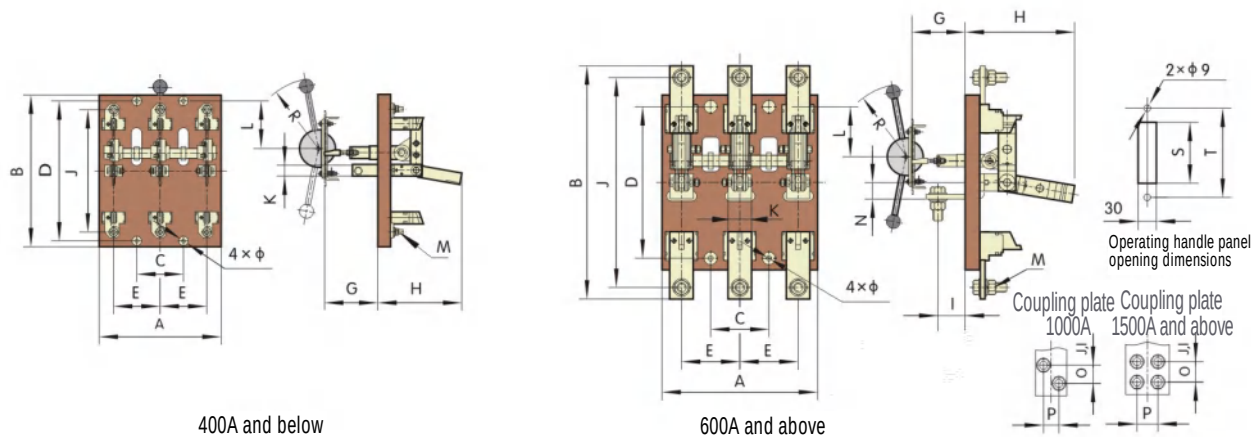

Figure 8
5.8HS13 Outline and mounting dimensions (see Figure 8, Table 9).